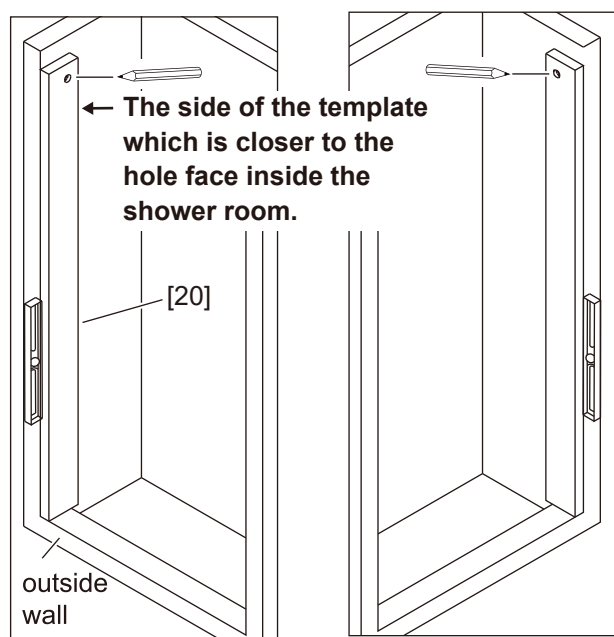

Fig 2.1
1. If this shower door is intended to be installed with **Guide Block [17]** flushing with the outside wall, position the **Template [20]** to the side wall of shower room with one of its side flush with the outside wall. (Fig 2.1)
3. Use a pencil to mark the screw holes on the wall through the **Template [20]**. (Fig 2.1, Fig 2.2)